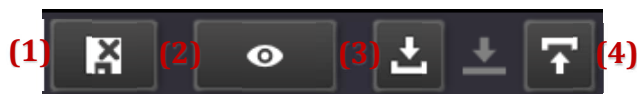

FIG. 29: TOP AUXILIARY BAR
In the top right corner of the automatic mode (see Fig. 29) it is possible to choose trial mode (1), manual mode (2), transfer actual position to the start position (3) and transfer actual position to target position (4).
The last two buttons in the top auxiliary bar (See Fig. 29 – (3) and (4)) are used to put the actual position to the start/target position. For the buttons to work, it is necessary to have one or more devices selected.